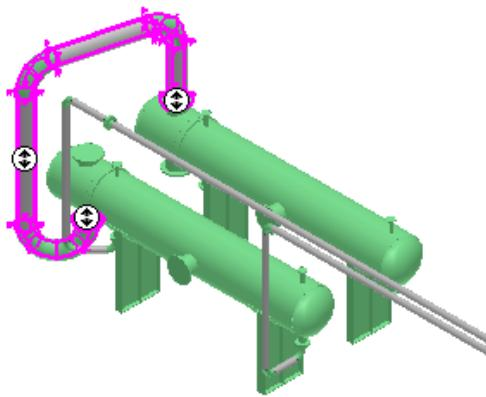

Figure 41: Selected Pipe Run
2. Select the pipe run in the pipeline **403-P**, as shown in Figure 41.